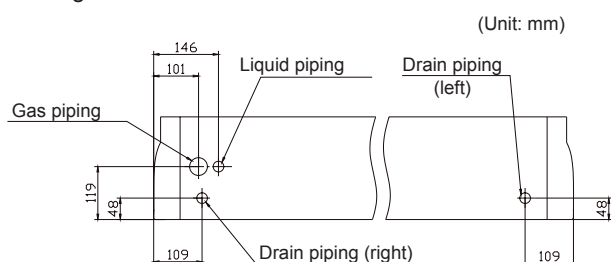

Fig. 4.1 Connection positions of the pipe
- 1 The connection positions of the pipe are shown in Fig. 4.1 and Fig. 4.2.